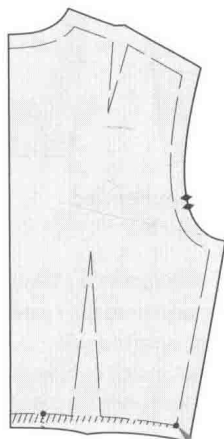

FIGURE 6.20 An alteration must remain level at center back or front for a distance of at least 1 inch.
- 5. Fold lines or seamlines that intersect the center front, center back, or sides must lie at right angles on the basic pattern. Length changes at center front or center back must remain level for the span of at least 1 to 3 inches from center—often for the span of the neckline, bust, shoulder, or waistline darts. The exception to this would be an alteration for an asymmetrical figure (see Figure 6.20).